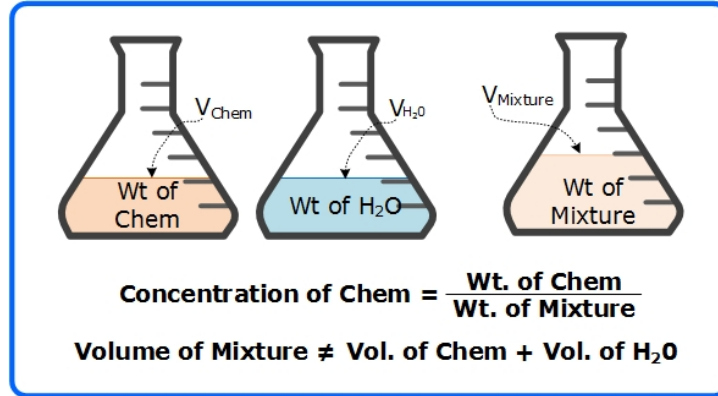

Figure 3: Concentration of Liquid Chemical in Water
3. The percentage, or decimal fraction, of liquid chemical, by volume or by weight, mixed with water in a day tank and used as a chemical feedstock. Be on guard, some liquid mixtures may partially or completely dissolve in the makeup water. (See Figure 3.)